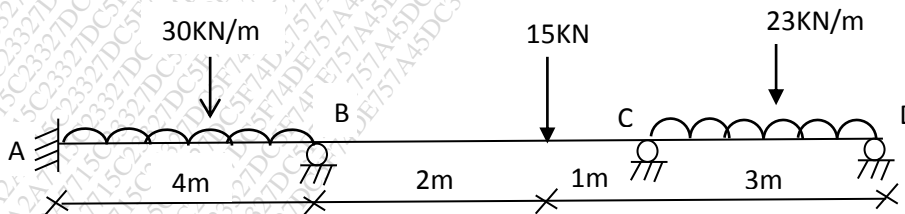

Fig. 4
Q.7 Analyze the continuous beam shown in fig. 4 & by using moment distribution method if support B sinks by 5mm. Take $E = 200 \text{ kN/mm}^2$, $I = 3.5 \times 10^7 \text{ mm}^4$ and draw BMD. 15